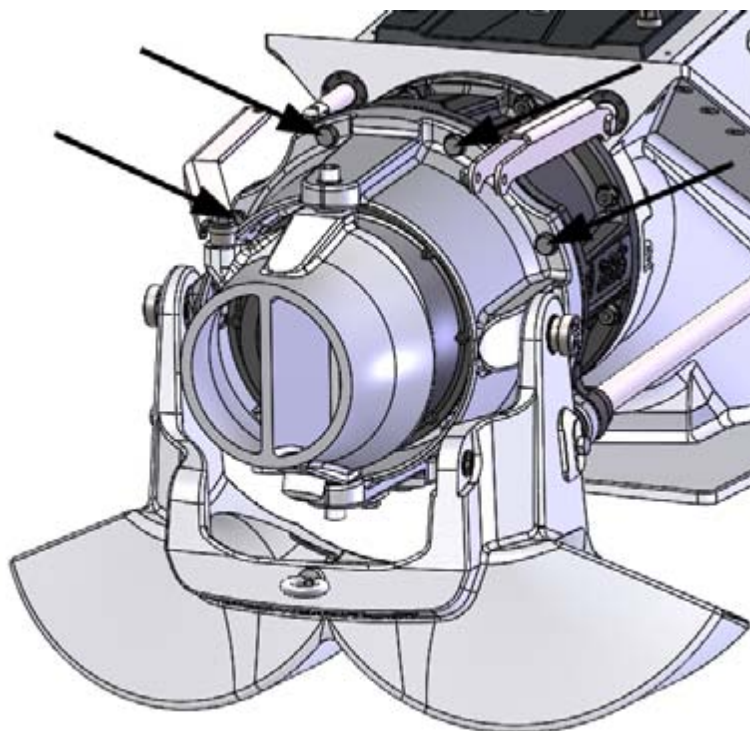

Figure 27. Stator fastening screws
2. Open the stator's fastening screws (figure 27).